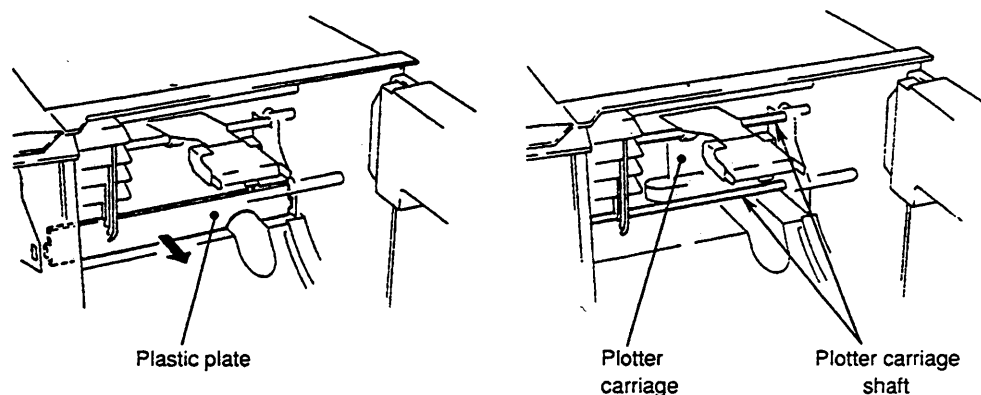

Figure 9-8. Cleaning the Plotter Carriage Shaft
1. Remove the plastic plate at the plotter carriage shaft (see Figure 9-8).
2. Two shafts (the upside and the downside of the plotter carriage) are visible (see Figure 9-8). Wipe off dirt using a soft cloth without fibers. If the dirt is persistent, you may use ethyl alcohol.